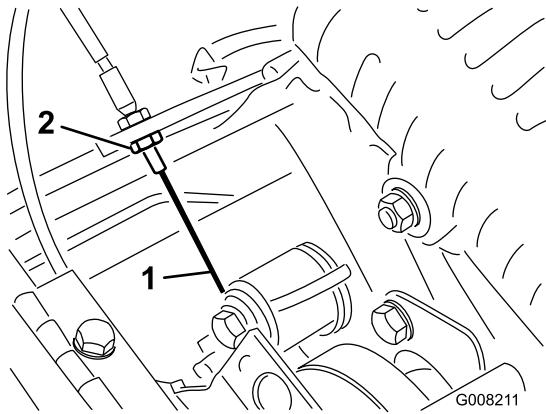

Figure 46
3. To increase the cable tension, loosen the front cable jam nut and tighten the back cable jam nut (Figure 46) until a force of 3 to 4 kg (7 to 9 lbs) is required to engage the traction control. Measure the force at the control knob.